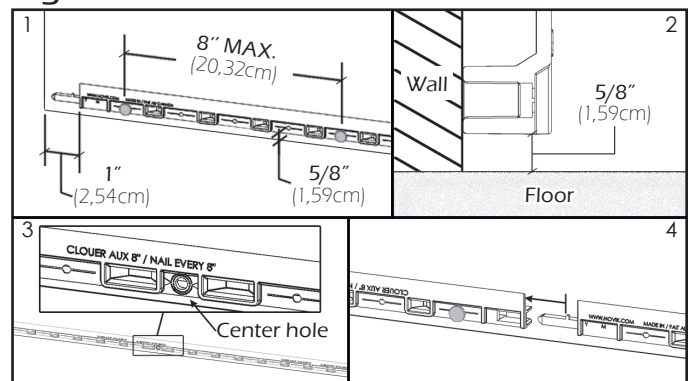

Figure A.1
- Pro Series Uniserial Starter Strip (Figure A.1):